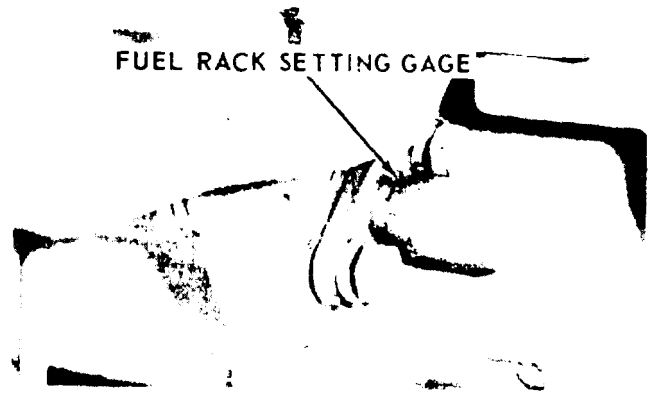
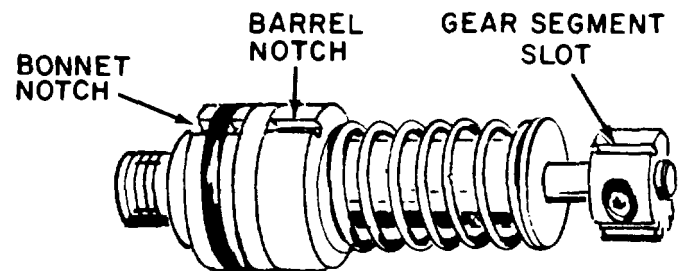
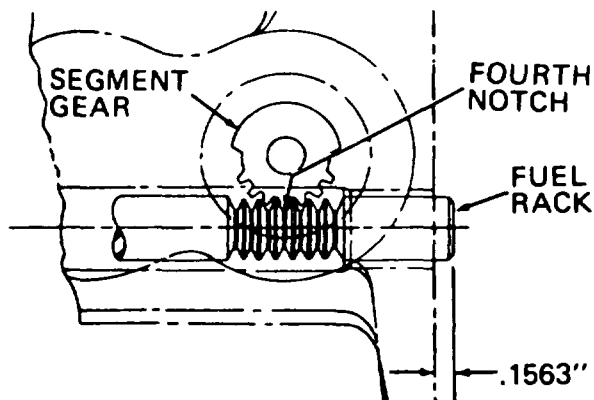

Figure 8-41. Installing regulator fuel rack
Figure 8-42. Fuel injection pump alignment
Figure 8-43. Correct position of gear segment and rack
b. Using a suitable installing tool, install camshaft bearing (63) so that hole in bearing aligns with oil passage in housing (76) and is flush with housing face.
c. Install fuel regulator rack bearings (62 and 65) so that groove in bearings aligns with scribe marks on housing (76). Bearing (65) must be installed 0.195 ± 0.005 inch deep from the housing face.
d. Use a suitable fuel rack setting gauge when installing fuel regulator rack, figure 8-41. Position fuel regulator rack so that gauge indicates 0.00 inch.
pump, align the notches in the bonnet (44, figure 8-39), and barrel (51) with the alignment mark 180 degrees from the pump gear segment center tooth (figure 8-42). Position pump so that the notches align with the two locating dowel pins (70 and 72, figure 8-39) in the housing bore. Align the pump gear segment center tooth with fuel regulator rack center notch (figure 8-43). Install pump. Keep a downward force on the pump, and install bushing (42, figure 8-39) until flush with the top of the housing. If the bushing cannot be installed, this far by hand, remove bushing, realign component parts, and install again.
g. Measure the rack travel to make sure that the plunger gear segment is properly meshed with the fuel rack. The gear segment and rack are so constructed that the maximum travel of the rack in either direction can be obtained only when the fourth tooth of the gear segment is meshed with the fourth notch on the fuel rack (figure 8-43). If the gear segment is misplaced in either direction, the rack travel will be reduced in both directions. It is, therefore, necessary to measure the rack travel in only one direction to make certain that the gear segment is properly meshed with the fuel rack. This is measured by using the rack setting gauge (figure 8-41). The rack is moved to its extreme fuel on position. A minimum reading of +0.312 on the gauge indicates